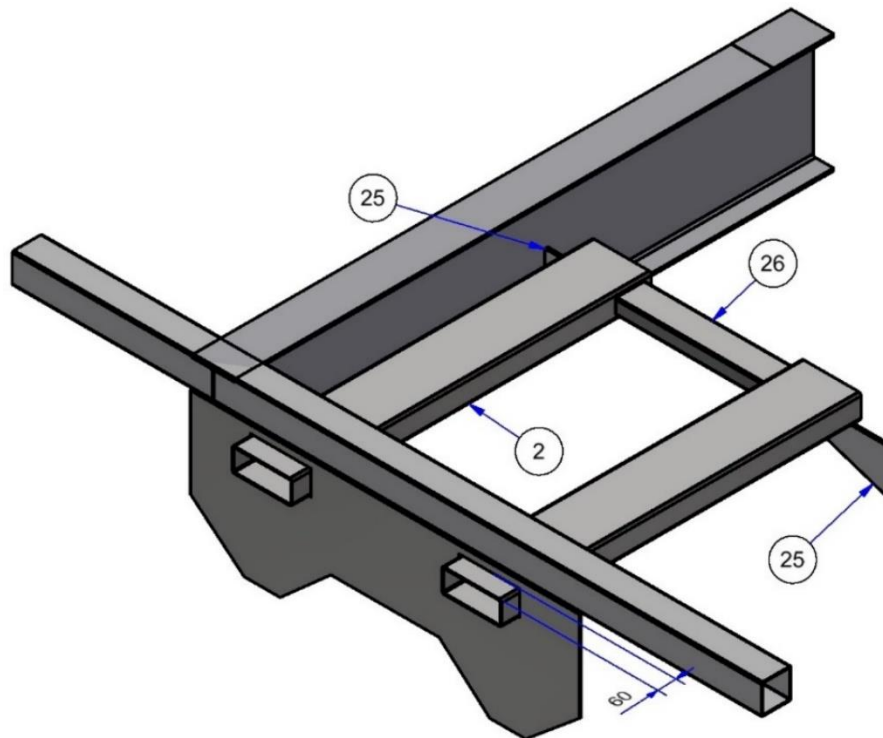

Figure 5 (Box Section and Gussets)
2. Weld the fork slipper support gussets in position as shown in Figure 5